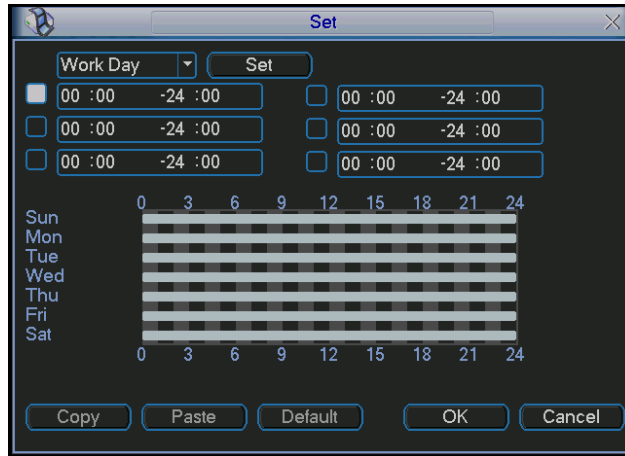
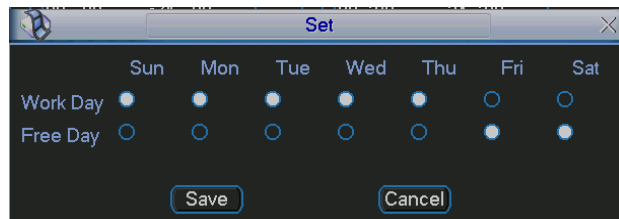

Figure 4-26
Figure 4-27
- Period: Click set button, you can see an interface is shown as in Figure 4-26. Here you can set for business day and non-business day. In Figure 4-26, click set button, you can see an interface is shown as in Figure 4-27. Here you can set your own setup for business day and non-business day.